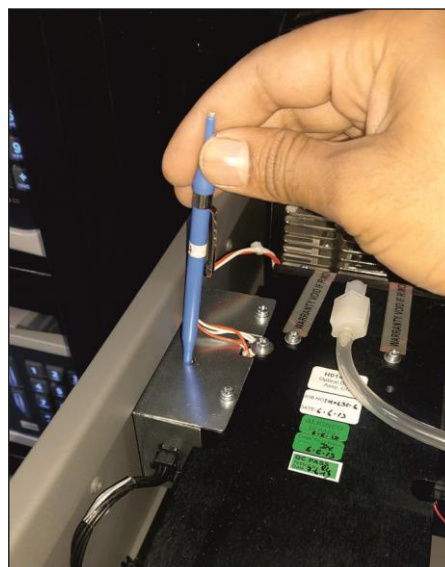

Figure 140 – Adjust Trim Pot
5. Refer to Figure 140. Adjust the trim pot on the detector assembly such that the **Ref. Voltage** reads $4.05\text{ V} \pm 0.05\text{ V}$.